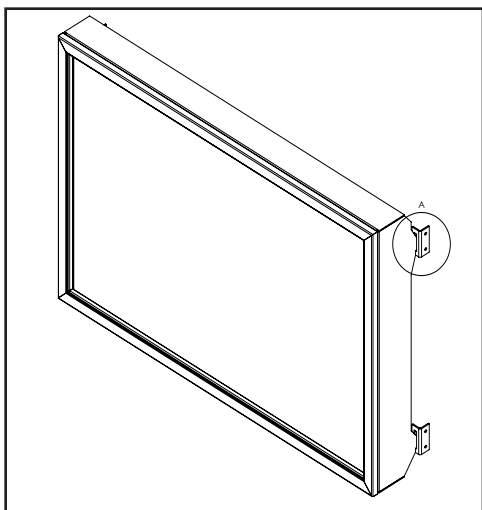

Figure 38a: Installing Safety Screen onto Cabinet Bracket (Parts removed for clarity)
To install the safety screen hold it upright in front of the fireplace with four (4) hooks pointing towards the fireplace. Slide the hooks into the corresponding brackets on each side of the cabinet (see figures 38a and 38b). Ensure the hooks are secure to confirm correct installation. To remove the safety screen unhook it from the brackets by lifting up and out.